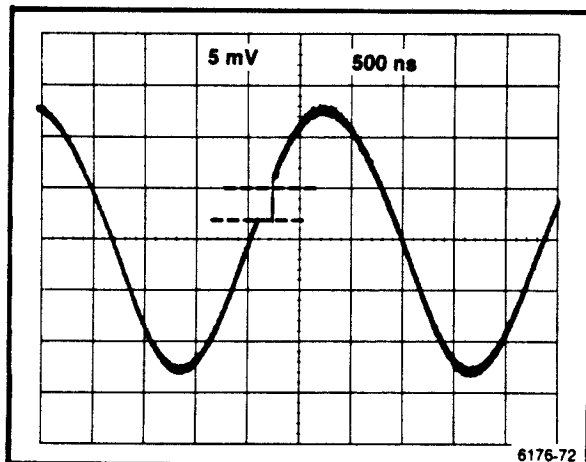

Figure 5-17. Typical display of strobe kickback.
b. **EXAMINE**—the displayed waveform for any discontinuity to be a maximum of 2 major divisions (2 mV or less; see Figure 5-17).